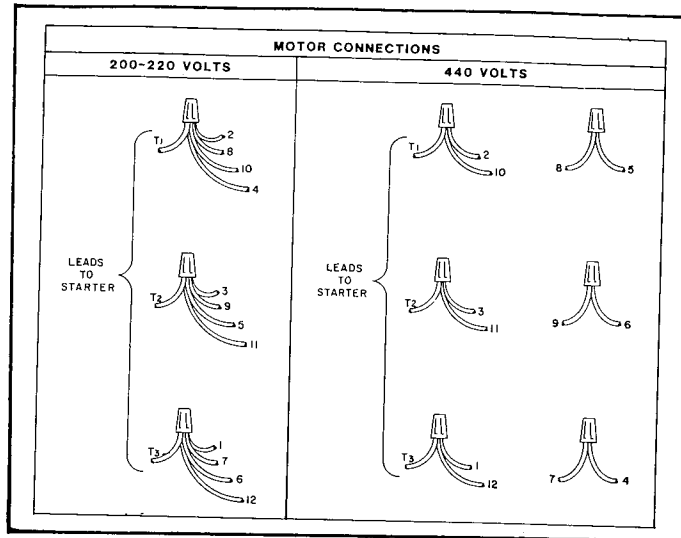

Fig. 3
2. Change the leads in the motor junction box for the proper line voltage as shown on the motor nameplate. The leads in motor junction box should be re-connected only when changing from 220 to 440 volts or 440 to 220 volts. The leads in the motor junction box are not changed when operating from either 200 or 220 volts. Refer to Fig. 3.